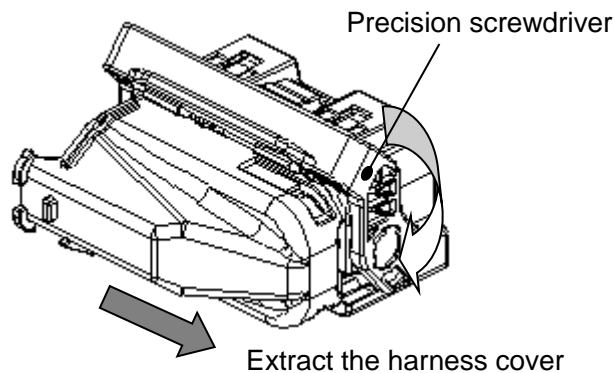

Fig.21
- ① Insert a precision screwdriver into the 2 locking parts of the top and the bottom as shown in Fig.21.
- ② Release the lock of the harness cover and extract it from the female connector. (Fig.21)